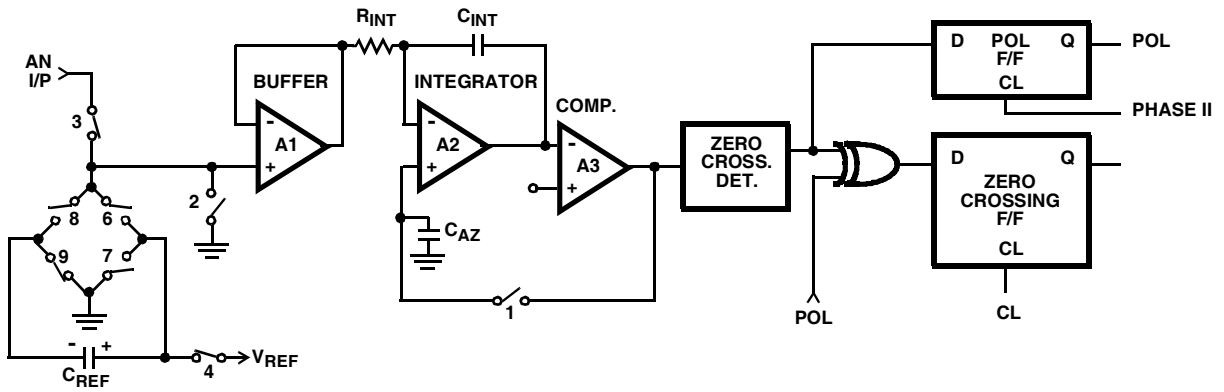

FIGURE 6B. PHASE II INTEGRATE INPUT
**Input Integrate Phase II (Figure 6B)**